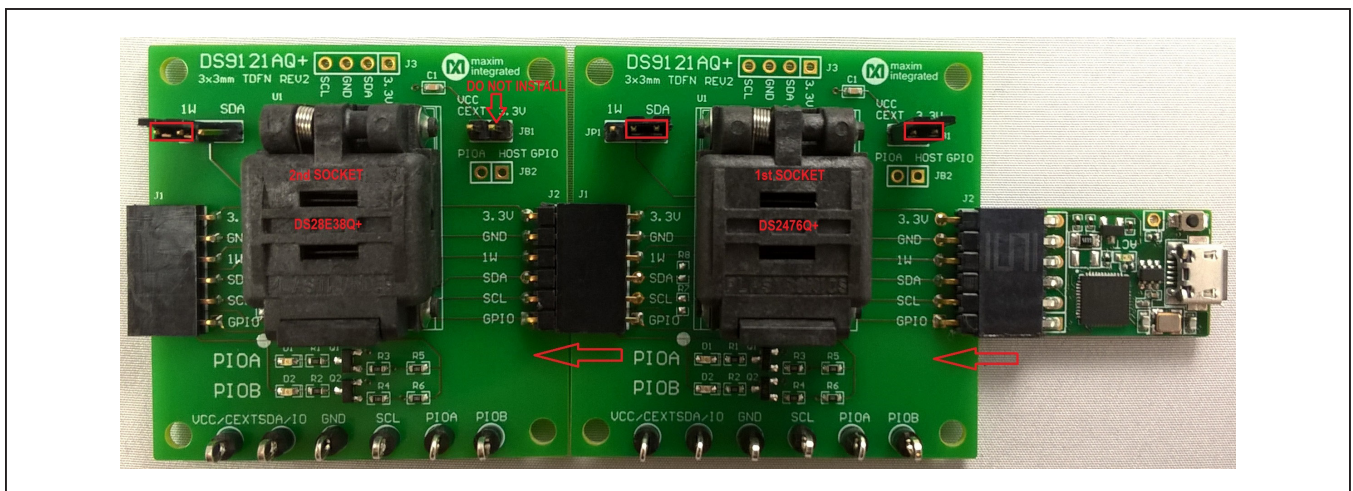

Figure 10. DS9481P-300# and DS9121AQ
- d) Connect the 1st DS9121AQ J2, 6-pin female socket, into the DS9481P-300#, 6-pin male plug per Figure 10.
- e) Connect the 2nd DS9121AQ J2, 6-pin female socket, into the 1st DS9121AQ J1, 6-pin male plug per Figure 10.
- f) For the 1st DS9121AQ+ socket boards that contains DS2476, configure jumpers JP1 to use SDA and JB1 to use 3.3V per Figure 10.
- g) For the 2nd DS9121AQ+ socket boards that contains DS28E38, configure jumpers JP1 to use 1W and JB1 do not install per Figure 10.